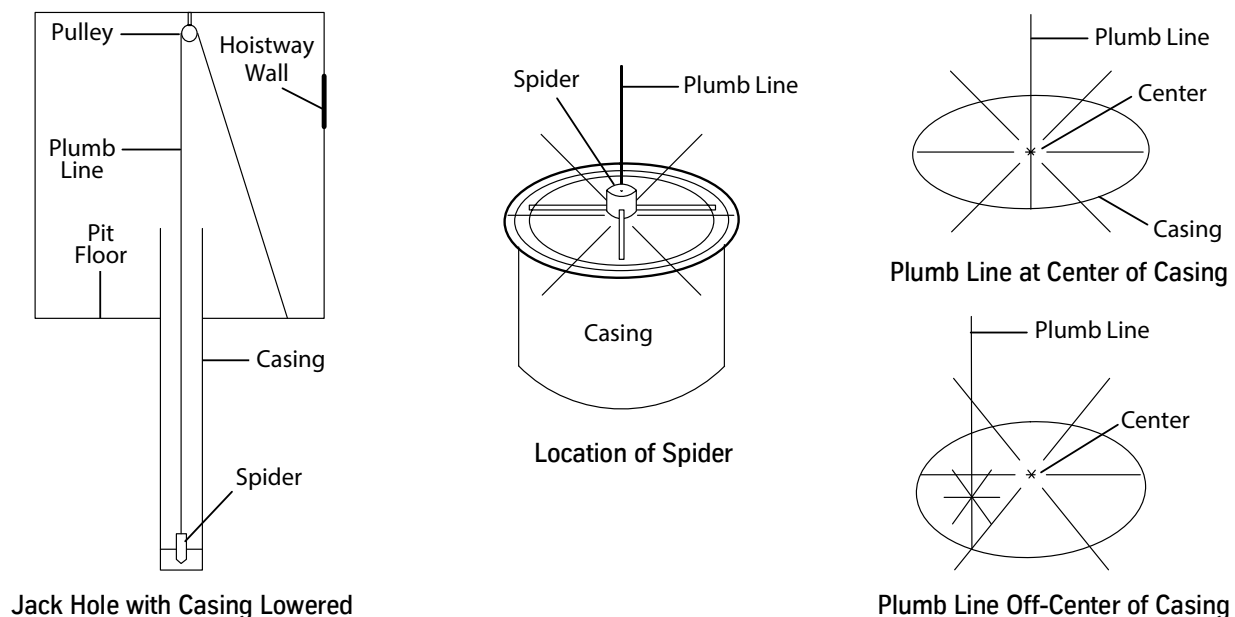

Figure 11 - Spider Jack Plumbing Method
2. Locate the connection (shown as the pulley) directly above the center of the jack. Refer to Figure 11 for all steps in this procedure.
7. Slowly lower the spider into the casing, and note whether the plumb line moves as the spider descends. See Figure 11.